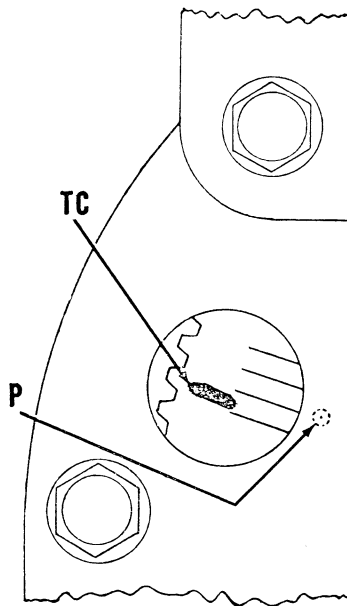

Fig. MH15—Distributor timing mark is indicated on flywheel face by painted mark TC as shown.
38. **IGNITION TIMING.** To time ignition with distributor installed, crank engine until number one piston is coming up on compression and continue to crank slowly until painted mark on flywheel (Fig. MH15) aligns with timing pointer when viewed through inspection opening on right side of engine; number one piston is now at top center of its compression stroke. Turn ignition switch on and rotate distributor a few degrees clockwise; hold number one spark plug wire close to head or grounded point and very slowly rotate distributor body counter-clockwise until a spark occurs at end of plug wire; lock distributor in position. To recheck ignition with timing light, operate engine at idle speed (do not operate above 600 rpm, as automatic advance starts at this speed) and make check with timing light connected in series with either number one or number four spark plug wire. If timing is correct, the light will flash at the same instant that painted mark on flywheel aligns with timing pointer. If the two do not align as light flashes, rotate distributor body until proper register is obtained.